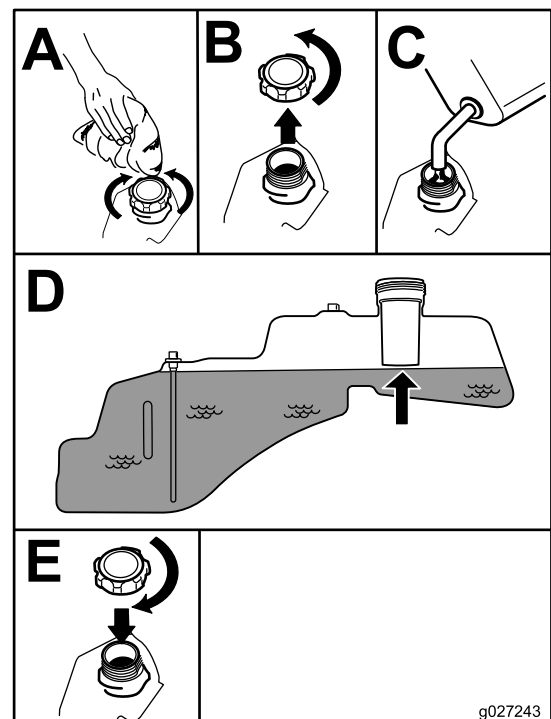

Figure 8
4. Fill the fuel tank to the bottom of the filler neck (Figure 8).